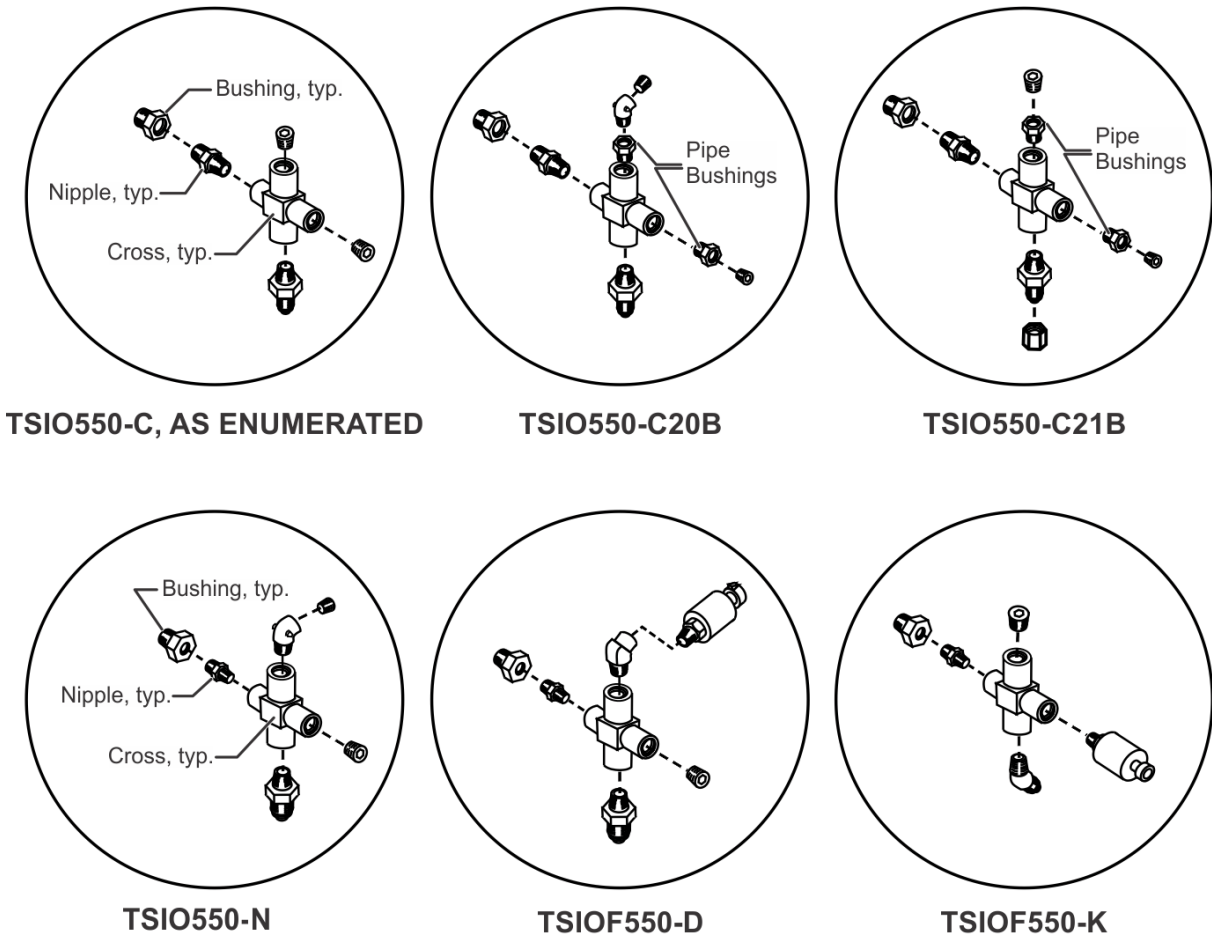
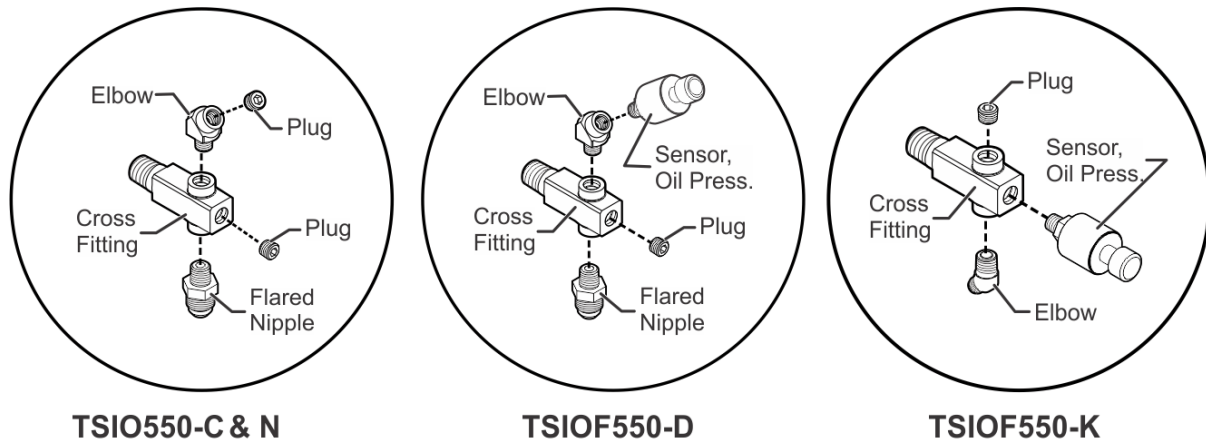

Figure 1. Cross Fitting Stack-Up, Prior Configurations
Figure 2. Cross Fitting, NEW Configurations
1. Eliminate the pipe bushing and nipple fitting stack-up (see Figure 1) typically found between the cross fitting and the oil cooler and replaces them with a single cross fitting (P/N 658607).
3. Added AN915-1J, 45-degree elbow fitting, to specific TSIO550-C engine models to accommodate optional oil pressure sensor installation (similar orientation as TSIOF550-D, see Figure 2).
4. Remove the additional pipe bushings (P/N AS4861J01) used for the oil pressure sensor and pipe plug previously installed on TSIO550-C20B and -C21B installations (see Figure 1). These bushings are obsolete (for this application) and will no longer be necessary for the new cross fitting installation; the AN915-1J 45-degree elbow fitting or pipe plugs fit directly into the new cross fitting (see Figure 2).